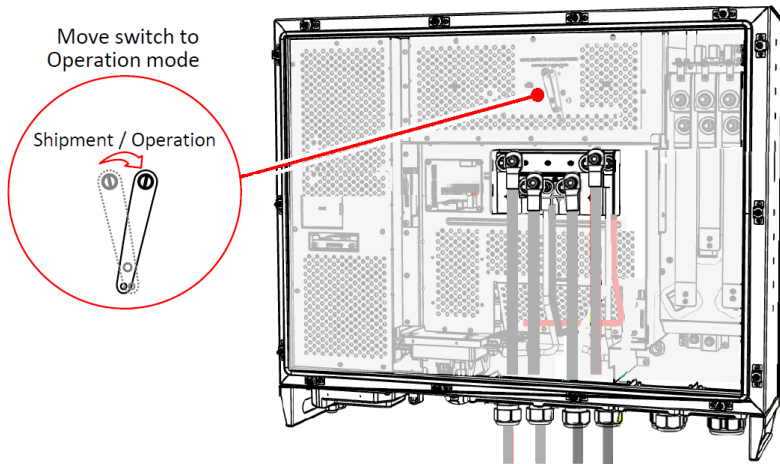

Figure 22: Unlocking the inverter
1. To unlock the inverter and enable power production, move the lock from SHIPMENT to OPERATION (see *Figure 22*).